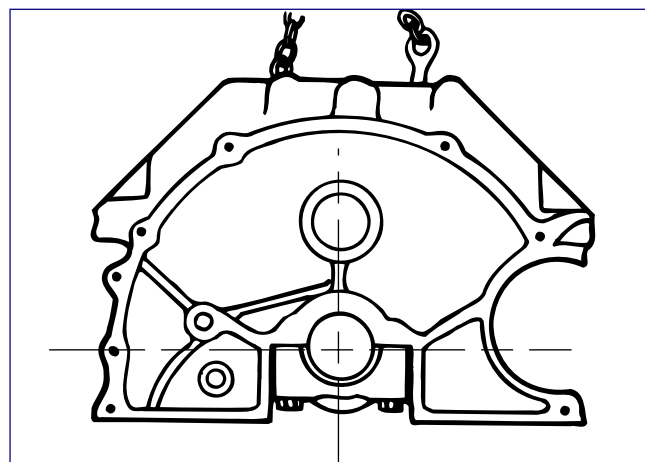
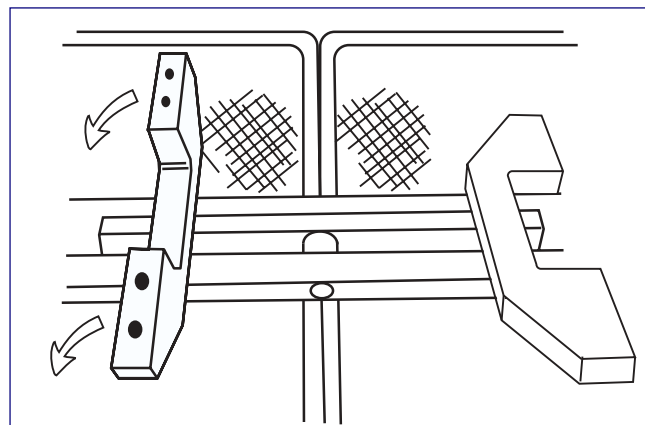

FIGURE 3-21, Main Bearing Centerline
FIGURE 3-22, Riser Blocks
- If main bearing centerline is above pan rails (*see Figure 3-21*), turn riser blocks 90 degrees to flat position, so that pan rails sit on flat part of risers (*see Figure 3-22*).